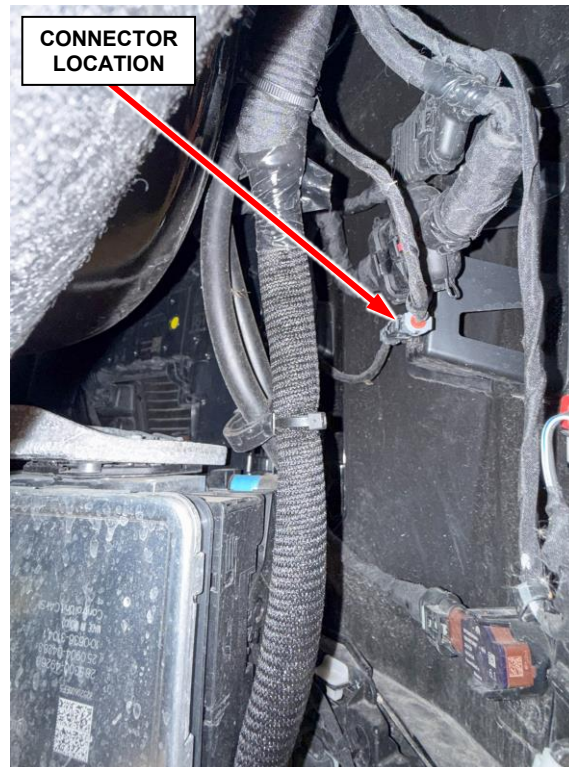

Figure 2 – Camera Harness Connector Location
5. Locate the camera wire harness connector (Figure 2).